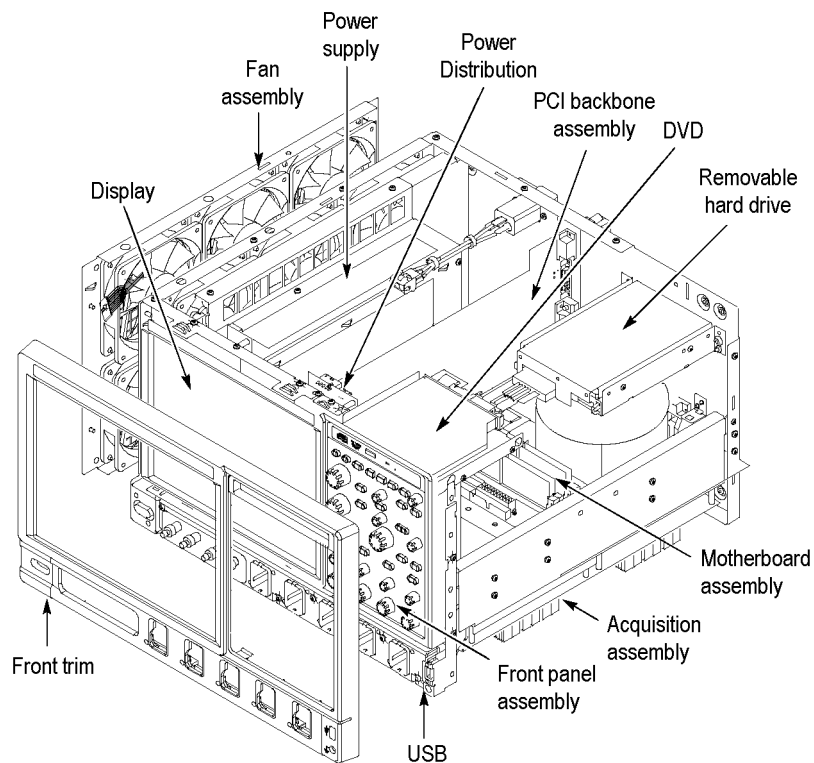

**Figure 4: DPO7000 Series module locations**
**Module Removal** **DPO7000 Series.** To remove a module, refer to the module locator. (See Figure 4.) You can also refer to the exploded view diagrams. (See page 54, *Using the Replaceable Parts List.*) To access the modules, refer to the module removal table. (See Table 4.)